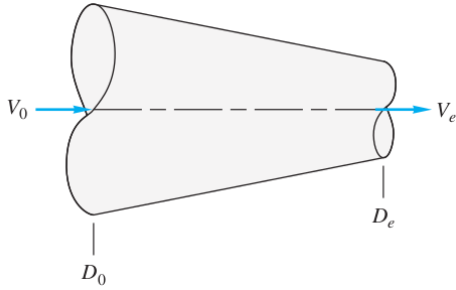

Fig. 4.9
4.9 Air flows under steady, approximately one-dimensional conditions through the conical nozzle in Fig. 4.9. If the speed of sound is approximately 340 m/s , what is the minimum nozzle-diameter ratio D_e/D_0 for which we can safely neglect compressibility effects if $V_0 =$ a) 10 m/s and b) 30 m/s ?